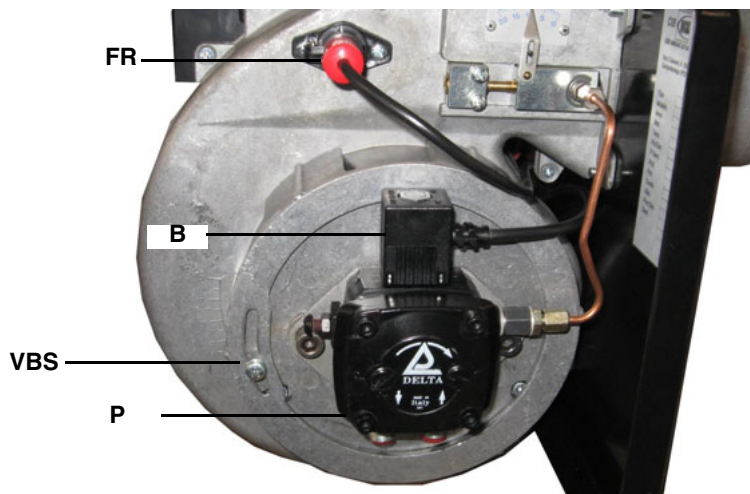
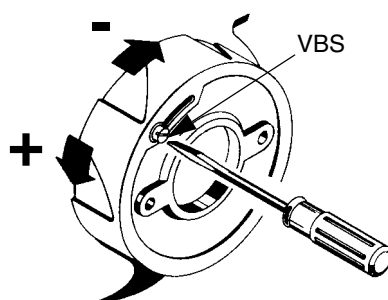

Fig. 10
Fig. 13
- 2 remove the solenoid valve coil **B** on pump **P** (Fig. 10) to avoid the light oil to get into the combustion chamber;
- 4 remove the detection probe **FR** (Fig. 10) and light it up;
- 5 bleed the air from the **M** pressure gauge port of the pump (**P**), slightly loosening the cap and without removing it (Fig. 10);
- 11 Checking the combustion values, adjust the air flow rate acting on the **VSB** screw (Fig. 10-Fig. 13); screw to decrease the flow rate and unscrew to increase it.